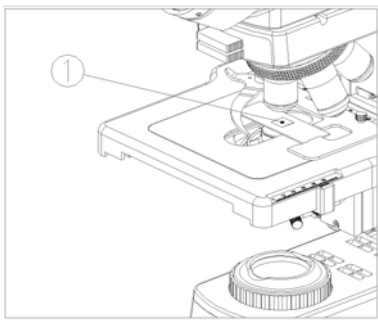

Fig. 24
- (1) Use the 4X objective to focus the specimen.
- (2) Place a drop of oil ① on the specimen (see Fig. 24).
- (3) Rotate the nosepiece counterclockwise and rotate the oil objective (100X) to the light path.